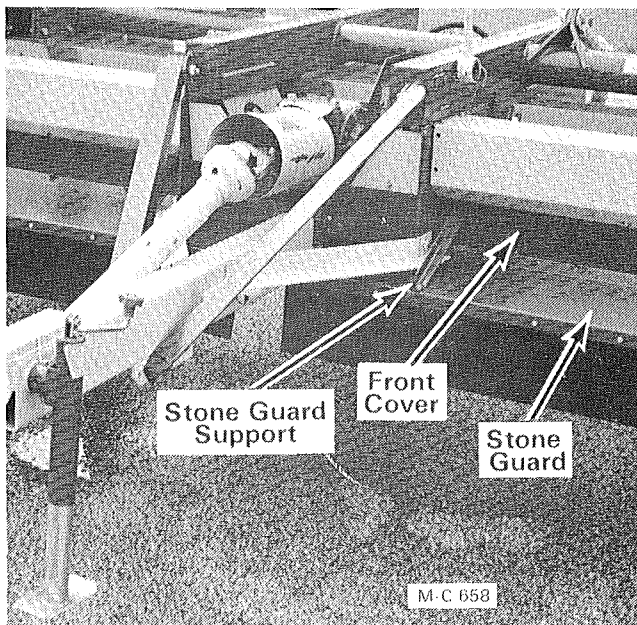

Figure 10 - Model 2408 Shown
4. Install the assembled stone guards to the Shredder front cover, see Figure 10 page 8. Use  $\frac{3}{8}$ "-16 X 1" (Grade 5) hex-head capscrews, flatwashers and locknuts to secure the stone guard supports to the Shredder front cover. The flatwashers go under the locknuts. Use  $\frac{3}{8}$ "-16 X  $\frac{3}{4}$ " (Grade 5) hex-head capscrews and locknuts to secure the stone guards to the Shredder front cover.